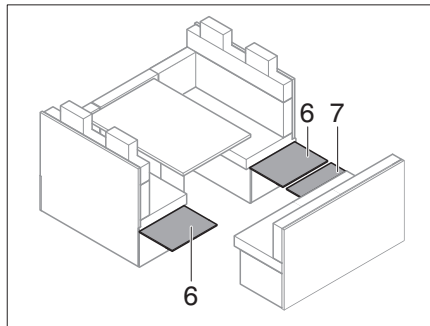

Fig. 216 Folding out side panels
- Fold out the seat bench side panels (Fig. 216,6) and seat bench front panel (Fig. 216,7).